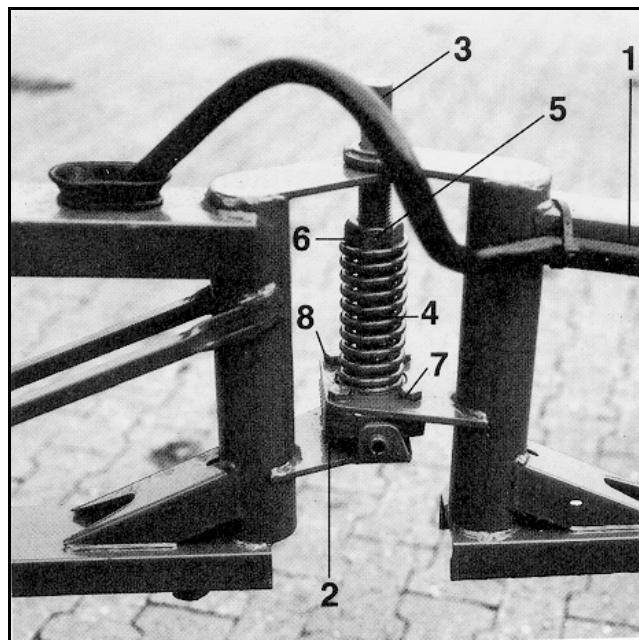

Fig. 60
- Slacken the bolts (Fig. 60/8) on the bracket (Fig. 60/7). The alignment is achieved by adjusting the plastic claw (Fig. 60/2) via the slotted holes of the bracket.
- Retighten the bolts (Fig. 60/8).